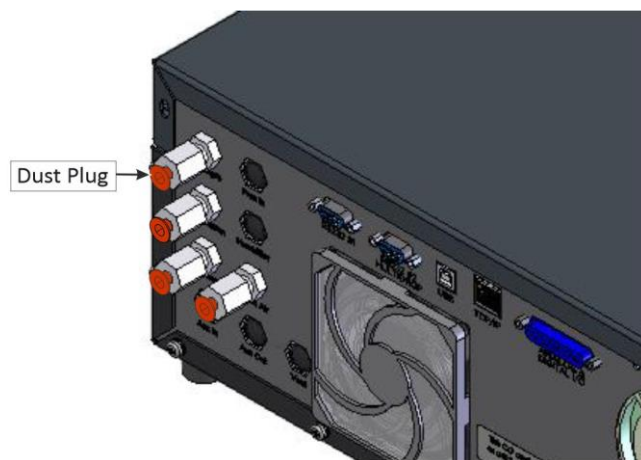

Figure 39 – Dust Plugs
5. Refer to Figure 39. Seal each pneumatic ports with a dust plug.